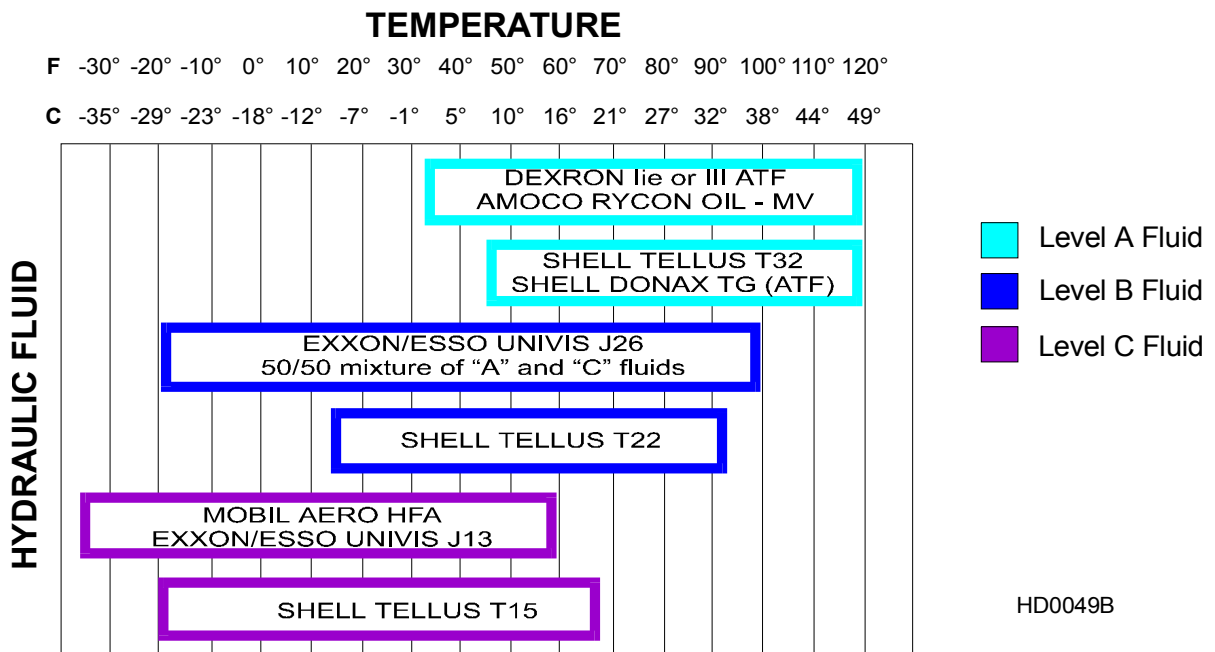

FIG. 3-7
**See Figure 3-7.** If you are operating in temperatures -20° to 100° F (-29° to 38° C), use an all-weather hydraulic fluid such as Exxon Unavis J26. For alternate fluids and/or other temperature ranges, refer to the chart below. Operating above the recommended temperature range of a fluid could result in excessive pump wear. Operating below the recommended temperature range could result in reduced hydraulic cylinder speed. To change fluid types, replace one gallon of the current fluid with one gallon of the alternate fluid.